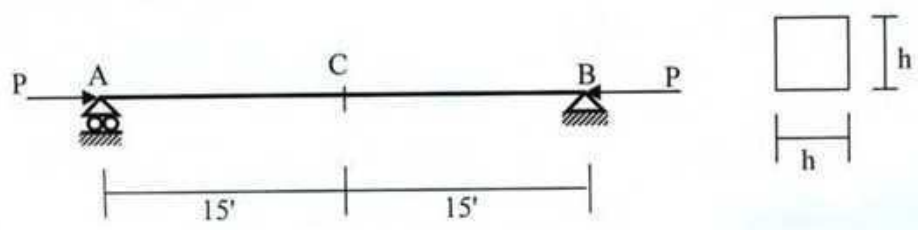

Fig.13
14. The beam ACB shown in Fig. 13 has an initial deflected shape of $v_i(x)=V_{oi} \text{ Sin}(\pi x/L)$. If the deflection at C is 1.5" when $P= 150\text{k}$ and 3" when $P= 250\text{k}$, calculate the height h of the beam section and the deflection at C, when $P= 300\text{k}$ [Given: $E= 3000 \text{ ksi}$]